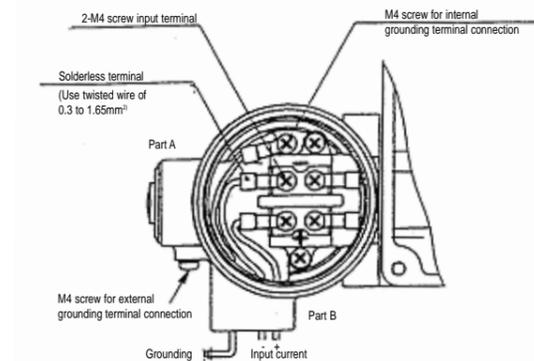

Fig.17 Positioner with terminal box
- (1) Connect the (+) and (-) output terminals from the regulator with the (+) and (-) input terminals, respectively, of the positioner terminal box. The port diameter at the conduction wire drawing port is the size of G1/2 parallel screw for piping and the depth is for a 16.5mm female screw.
- (2) Two drawing ports, marked as Part A and Part B in Fig.17, are provided. Use either one as fitted. (Part B is used in the figure).